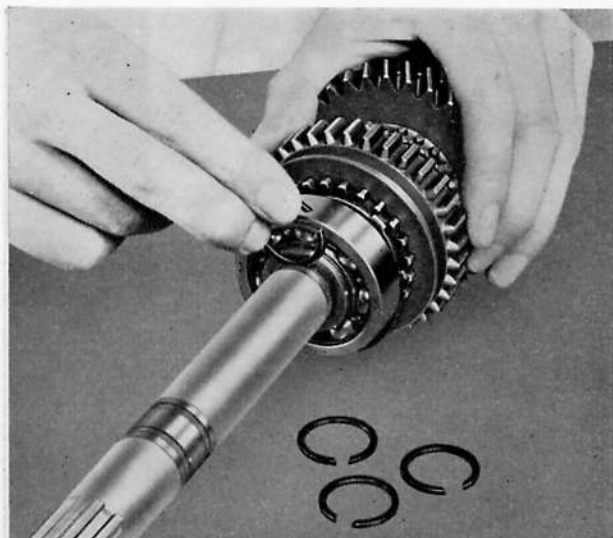

Fig. G.36. Selecting a mainshaft bearing circlip
8. Install the mainshaft bearing thrust washer, then select a circlip (Fig. G.36) which will take up all clearance between the thrust washer and the rear face of the circlip groove, and install the circlip.